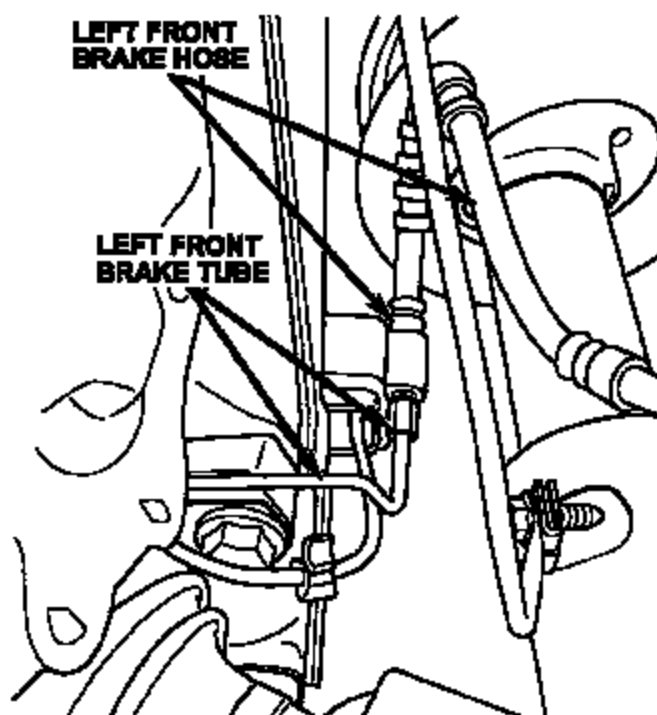

Figure 2
11. Disconnect the left front brake tube from the left front brake hose (Figure 2).